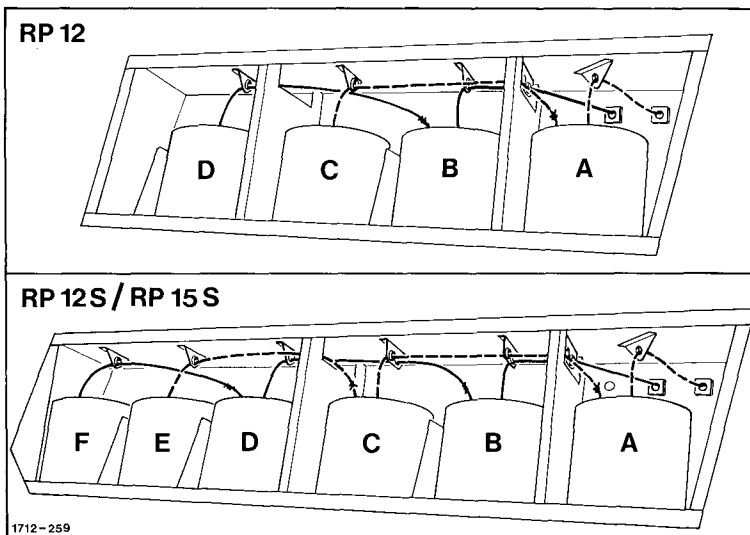
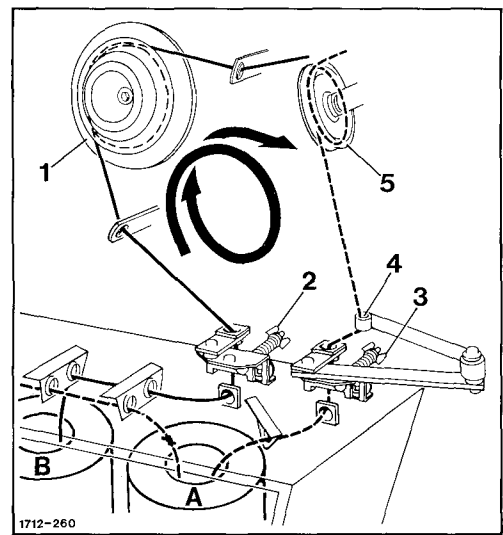
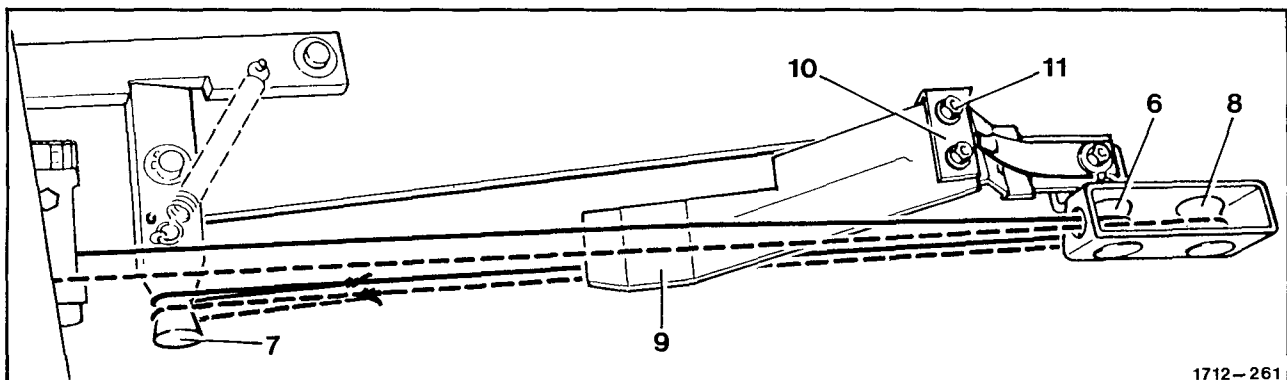
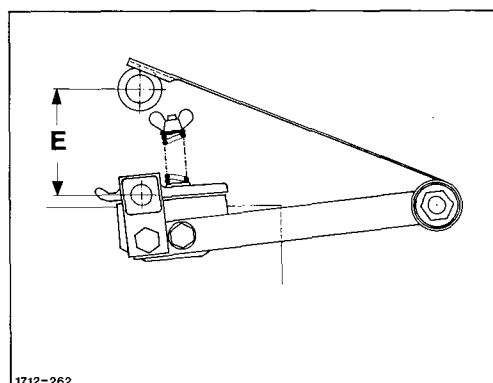

Fig. 2
Fig. 3
Fig. 4
Fig. 5
Fit bracket for signal box in tractor cabin and plug in control box. Connect plug of the connecting lead on the tractor. The signal box (fig. 3) has 2 illuminated pushbuttons (green/red), one buzzer and one selecting switch. The green illuminated pushbutton indicates the correct polarity and voltage on the machine and is used for engaging the net wrapping. The buzzer and the red illuminated pushbutton display the signal for engaging the wrapping. When the selecting switch is set to "automatic", automatic twine wrapping takes place after the pre-selected density has been reached. At the "manual" setting, either twine wrapping (red pushbutton) or net wrapping (green pushbutton) can be engaged at any time. For net wrapping the green pushbutton must then be held down until the net is gripped by the bale (indicated by the rotation of the netting roll). In the case of net wrapping, care must be taken that the selecting switch is in the "manual" position, so that unwanted twine entry is prevented.
Insert and thread new twine spools only when the baler is stationary. Use baler twine of good quality only. See page 2 for Technical Data. Where bales are to be stored outside, plastic twine is recommended. Put four spools for RP 12 respectively six spools for RP 12 S / RP 15 S - A, B, C, D - upright, side by side into the twine box (fig. 2). Unless spools are inserted the right way round the twine tends to form loops and to tear. Pull twine end out of spool A from the top of the wrapping and tie it to the start of spool C with a simple knot. Tie spool B to spool D; always pulling the twine through the twine guides found above each spool.
Before threading the twine move twine running indicator 5 (fig. 26) to the yellow mark on the left (in driving direction) by turning the pulley 1 (fig. 3), (starting position). Proceed by threading the twine as in fig. 2, 3 and 4 also see respective transfers on the baler. Pull twine out of spool B through the top guide eye in the twine box, through the rear panel of the twine box and through the twine tensioner 2. Correct tension of twine tensioner 2 must be set to a spring tension of 28 mm. Guide the twine through the fixed guide eyes in front and behind the stepped pulley 1 and then guide the twine through the second twine tensioner. Set twine tensioner at 23 mm.
Further threading the twine behind the second twine tensioner, as shown in fig. 4. Lead the twine around roller 6 as shown. Tie a large loop on the end of the twine and attach the loop over roller 7. Pull the twine tight and wind it around the stepped pulley 1 (Fig. 3) 1 ½ times.
Pull twine A through the top guide eye in the twine box, through the rear panel of the twine box and through the twine tensioner 3 (fig. 3). Correct tension of twine tensioner 3 must be set to a spring tension of 25 - 28 mm. Thread the twine further through the spring loaded guide 4 and over roller 5. Guide twine as shown in fig. 4 around roller 8. Tie a loop to the twine end and also attach the loop to roller 7. Both legs of spiral springs have to be set before any twine is threaded as shown in fig. 5 to measurement E = 60 - 80 mm.
Note: The wrapping distance of twine on the finished bale can be pre-selected. This is decided by the runnage of twine around the pulley 1 (Fig. 3). Large pulley diameter makes a narrow twine wrapping distance. Small pulley diameter makes a wide wrapping distance of twine on the bale.
Check twine thrower 9 (Fig. 4) for correct setting. The measurement between the tightly tensioned twine and the front edge of twine thrower 9 must be 10 - 20 mm. If this is not the case, loosen bolts 11 and adjust angle 10 to twine thrower 9 so that measurement is within range of tolerance. Twine thrower 9 must go directly past wrapping unit frame. Lastly tighten up bolts 11 again.
**IMPORTANT:** Do not turn the pulley 1 (Fig. 3) after threading, for this will make the wrapping process start up prematurely.